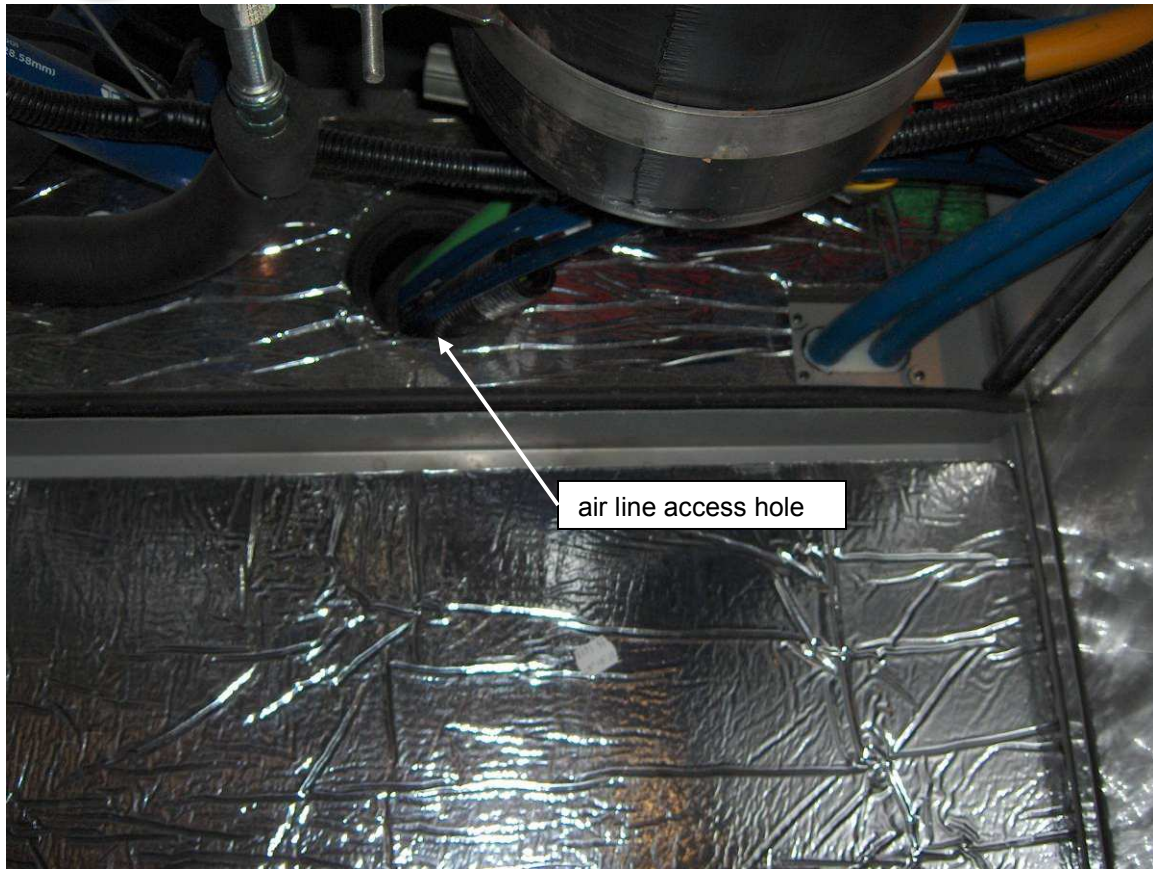

Figure 8 – Air Line Access Hole
12. Flip down front bumper of coach, remove access panel, then remove access panel on roof of compartment to identify air line access hole as shown in Figure 8.